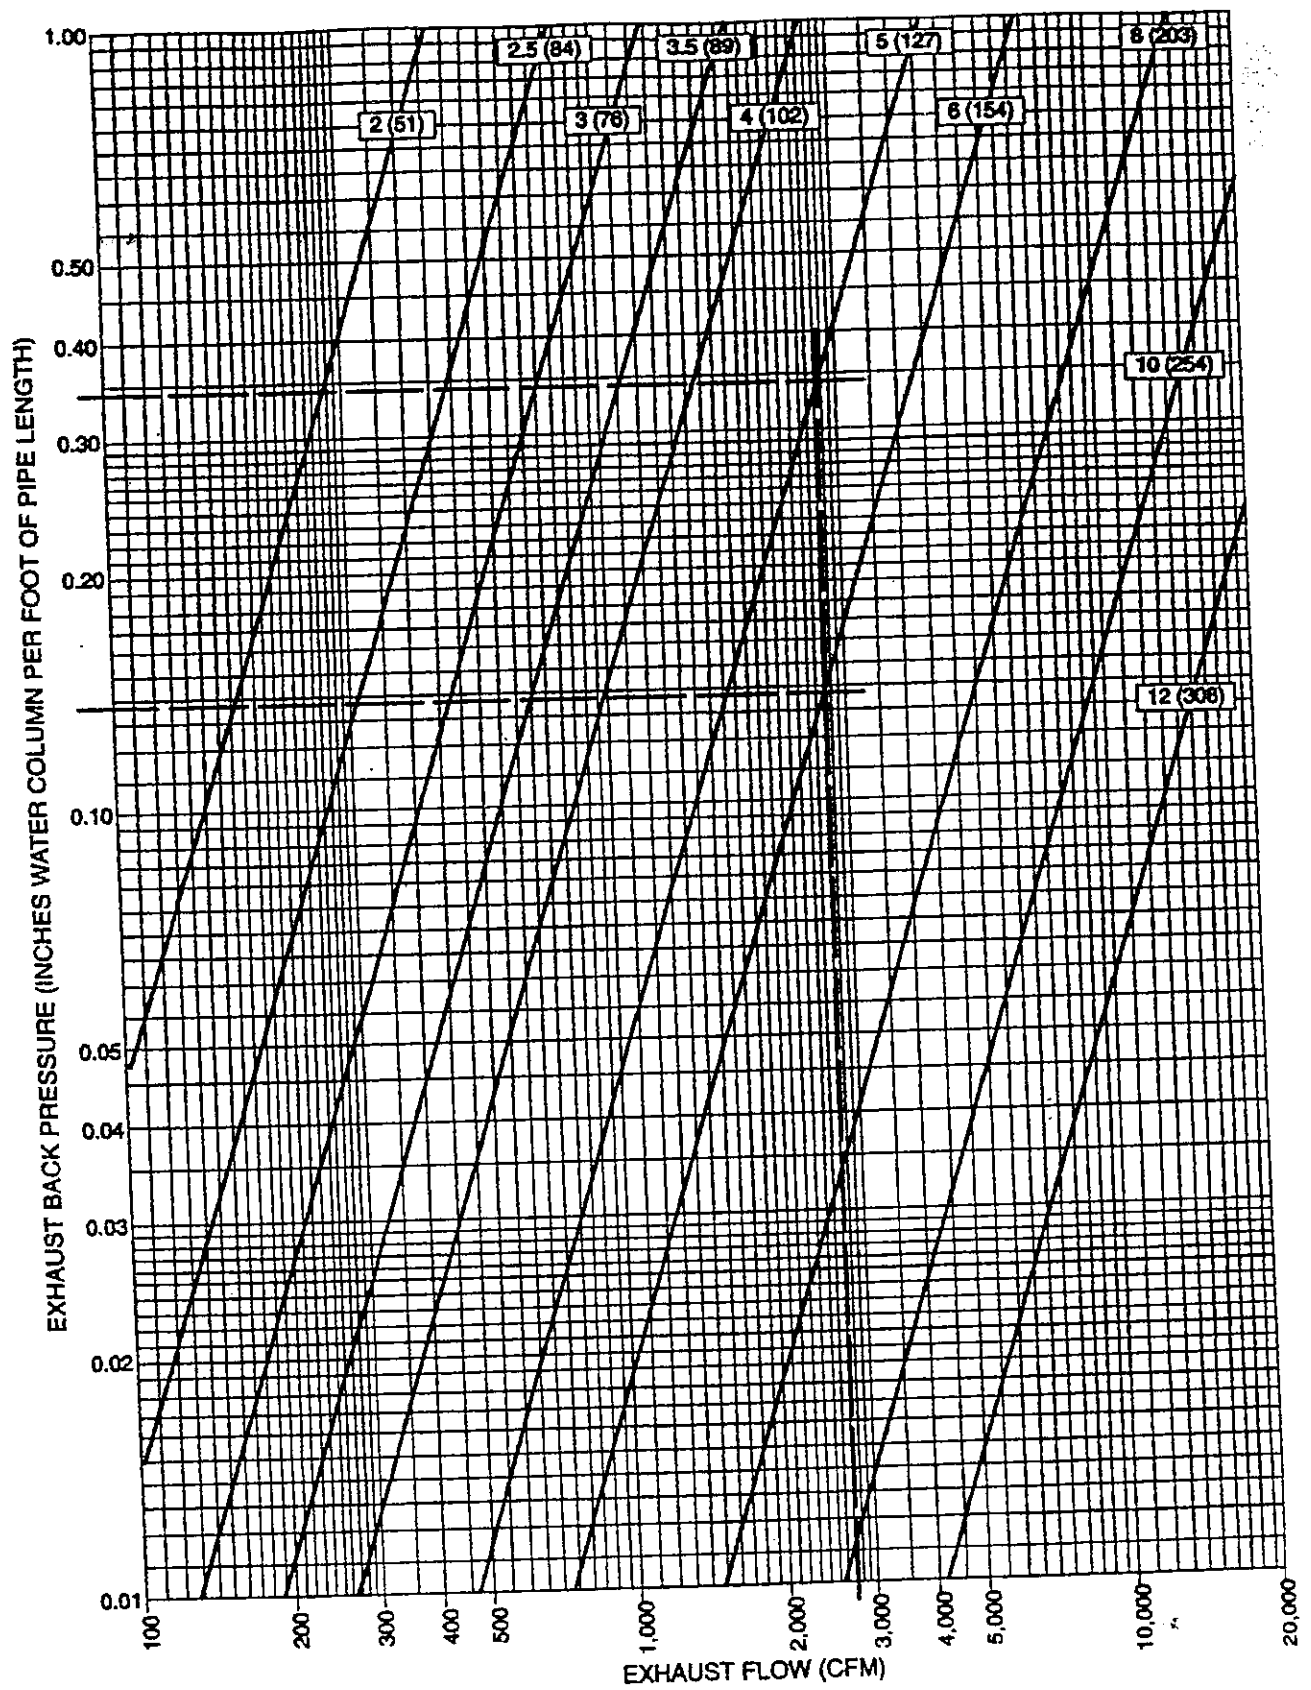

FIGURE 23. EXHAUST BACK PRESSURE IN NOMINAL INCH (mm) PIPE DIAMETERS
3. Find the back pressure at the given exhaust flow per unit length of pipe for each nominal pipe diameter used in the system. In this example, 5 inch and 6 inch nominal pipe is used. Following the dashed lines in Figure 23, 5 inch pipe causes a back pressure of approximately 0.35 inches WC (Water Column) and 6 inch pipe approximately 0.145 inches WC.